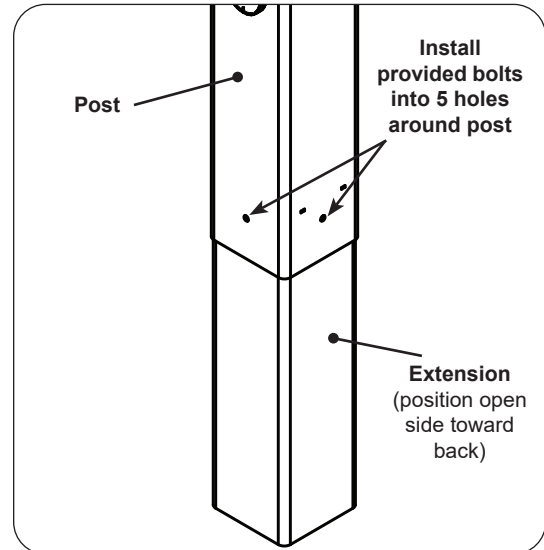

Fig. 24-1 Install extension to post
1. Attach the extension to the bottom of the grill post so that the open portion is toward the back of the grill and the five holes in the extension line up with the five (5) weld-nuts in the post (see Fig. 24-1).